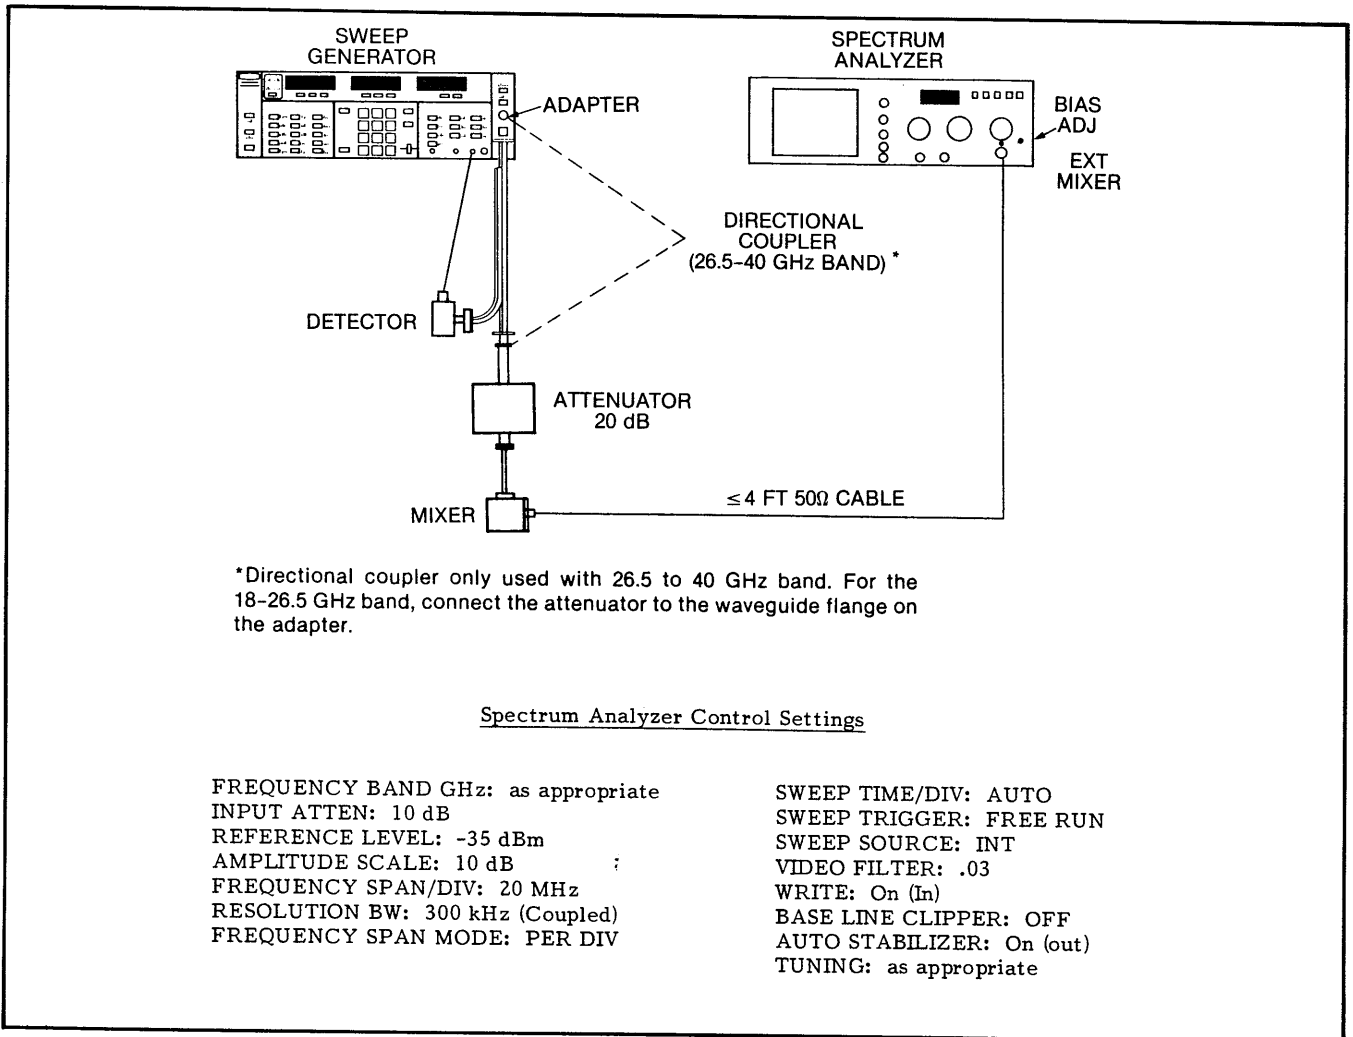

Figure 4-19. Test Equipment Setup for RF Output Tests
1. Connect the test equipment and position the controls as shown in Figure 4-19; turn the equipment on.
7. Remove the attenuator/mixer combination from the 18-26.5 GHz connector, and connect it to the directional coupler as shown in Figure 4-19.